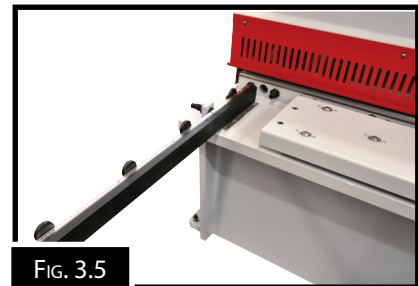

FIG. 3.5
- Place the squaring stops Fig 3.5 into position on the table top, securing into place with the bolts supplied. Check that the square stops are square to the blade. Adjust by loosening the bolts and moving by the amount allowed by the clearance of the holes.